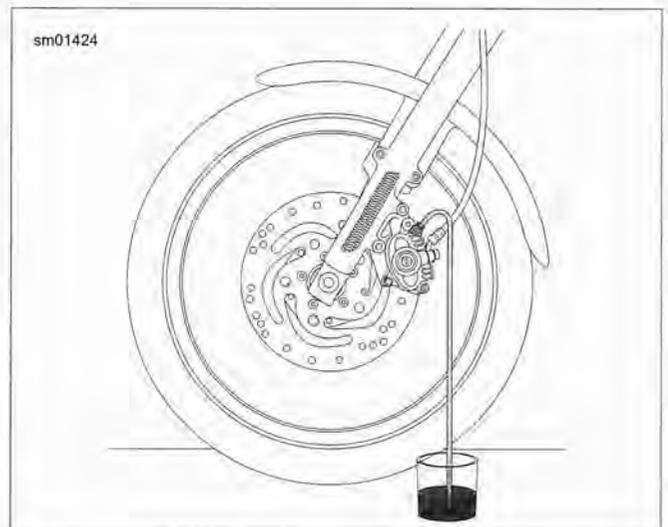

Figure 2-65. Bleeding Hydraulic System
2. See Figure 2-65. Install end of a length of 5/16 in (7.9 mm) ID clear plastic tubing over caliper bleeder valve, while placing free end in a suitable container. Open bleeder valve about 1/2 turn. Pump brake hand lever repeatedly to drain brake fluid. Close bleeder valve.